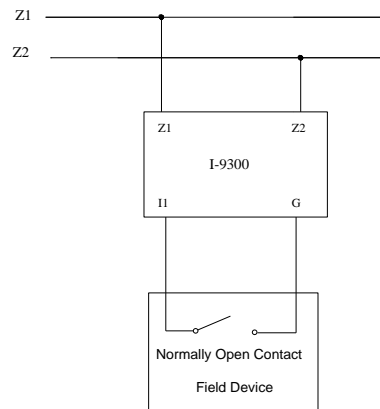

Fig. 4
✧ Fig. 4 shows connecting the module with field device with volt-free normally open contact. Working mode is normally open (4).